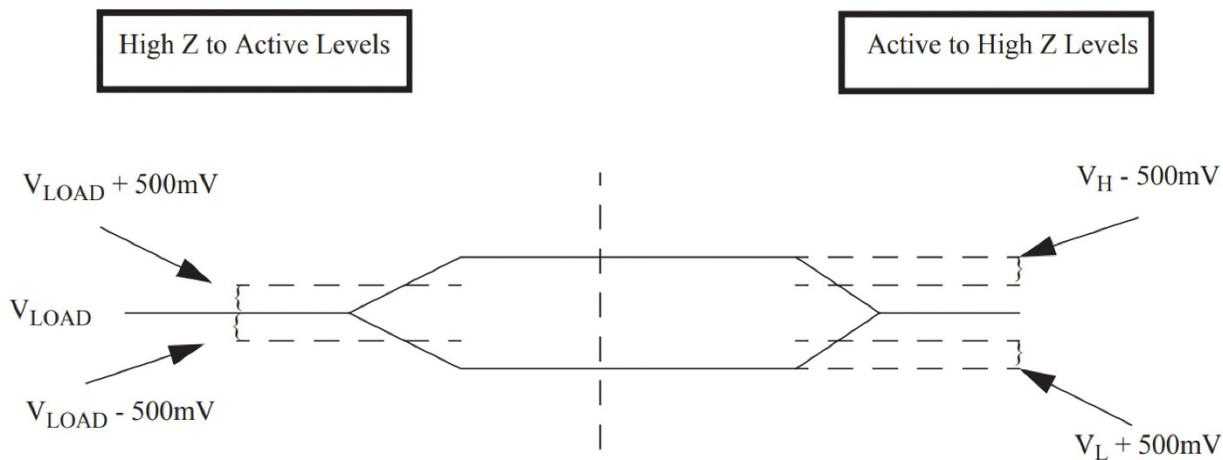

Figure 3. 5-Volt SRAM Loading
- 2) Three-state is defined as 500mV change from steady-state output voltage (see Figure 3).